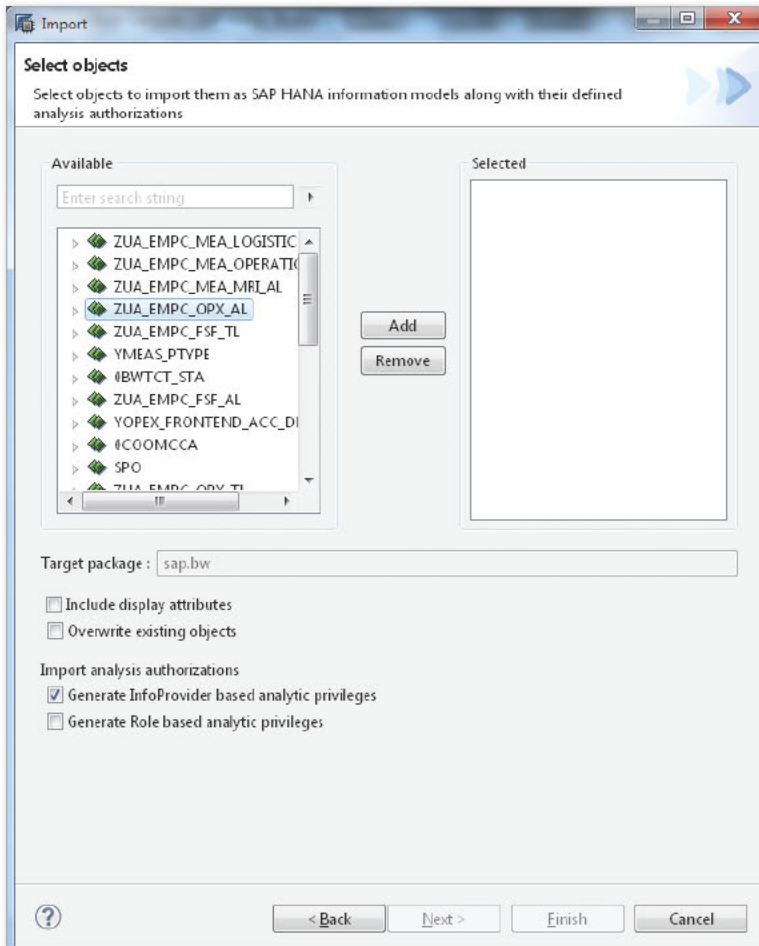

Figure 1 Select the InfoProvider from the InfoArea
7. As shown in Figure 1, navigate to the relevant info area and move left to right by selecting the SAP NetWeaver BW model and clicking on the **ADD** button. Click **NEXT** and **FINISH**. Note that imported models will be created as an SAP HANA model (analytic or calculation view) under the **TARGET PACKAGE SAP.BW**.